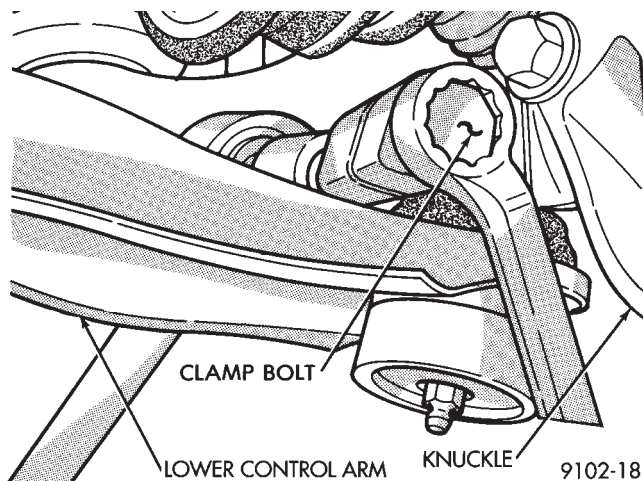

Fig. 13 Tighten Clamp Bolt
(4) Install and tighten clamp bolt to 136 N•m (100 ft. lbs.) torque (Fig. 13).